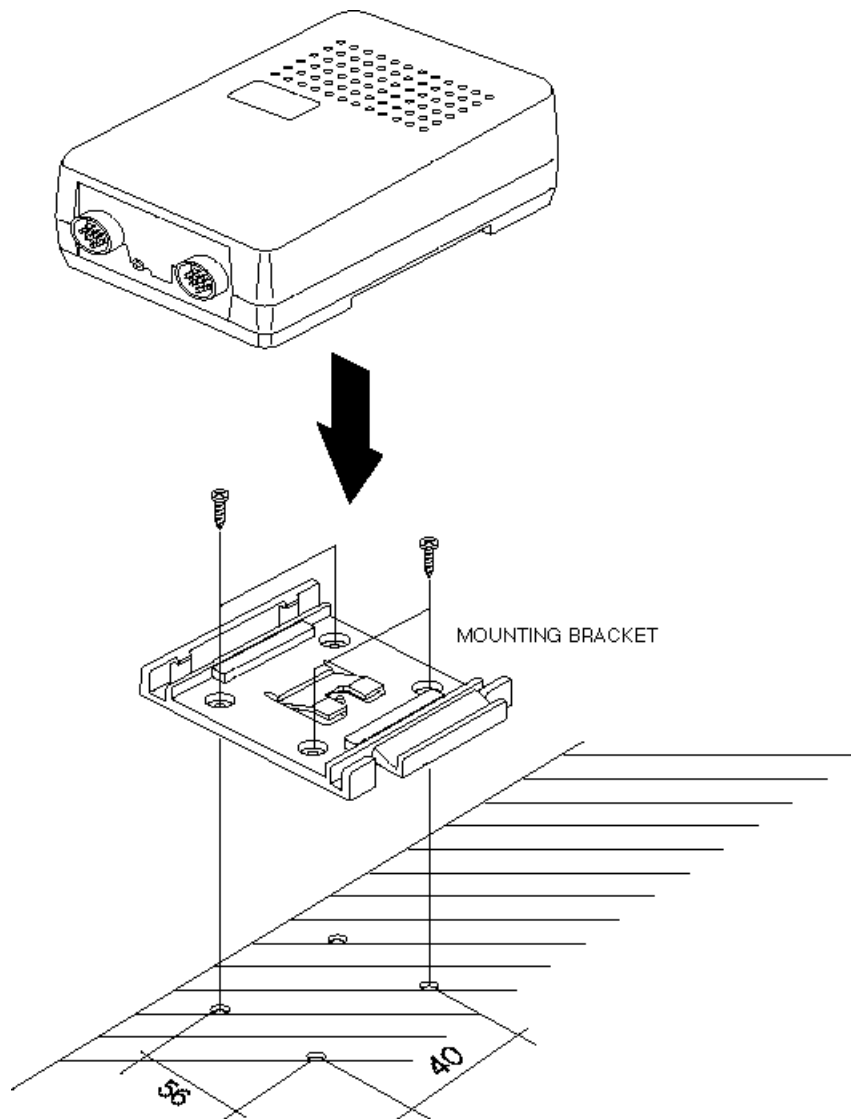

Figure 2-3 Hands-Free Box Installation
1. Drill holes in a proper location for the hands-free box, attach the mounting bracket by using the screws. See the figure 2-3.